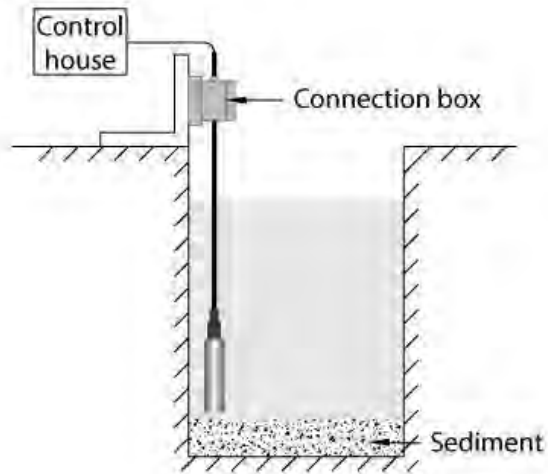

Fig. 1
- a. Fig 1 shows the installation method used in case of static water